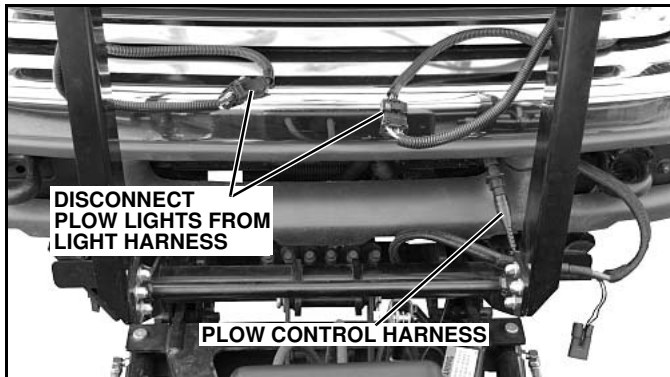

Figure 1-21
2. Disconnect the plow lights from the truck light harness (See Figure 1-21). Disconnect the plow control harness and replace the protective cap. (See Figure 1-21 or 1-22).